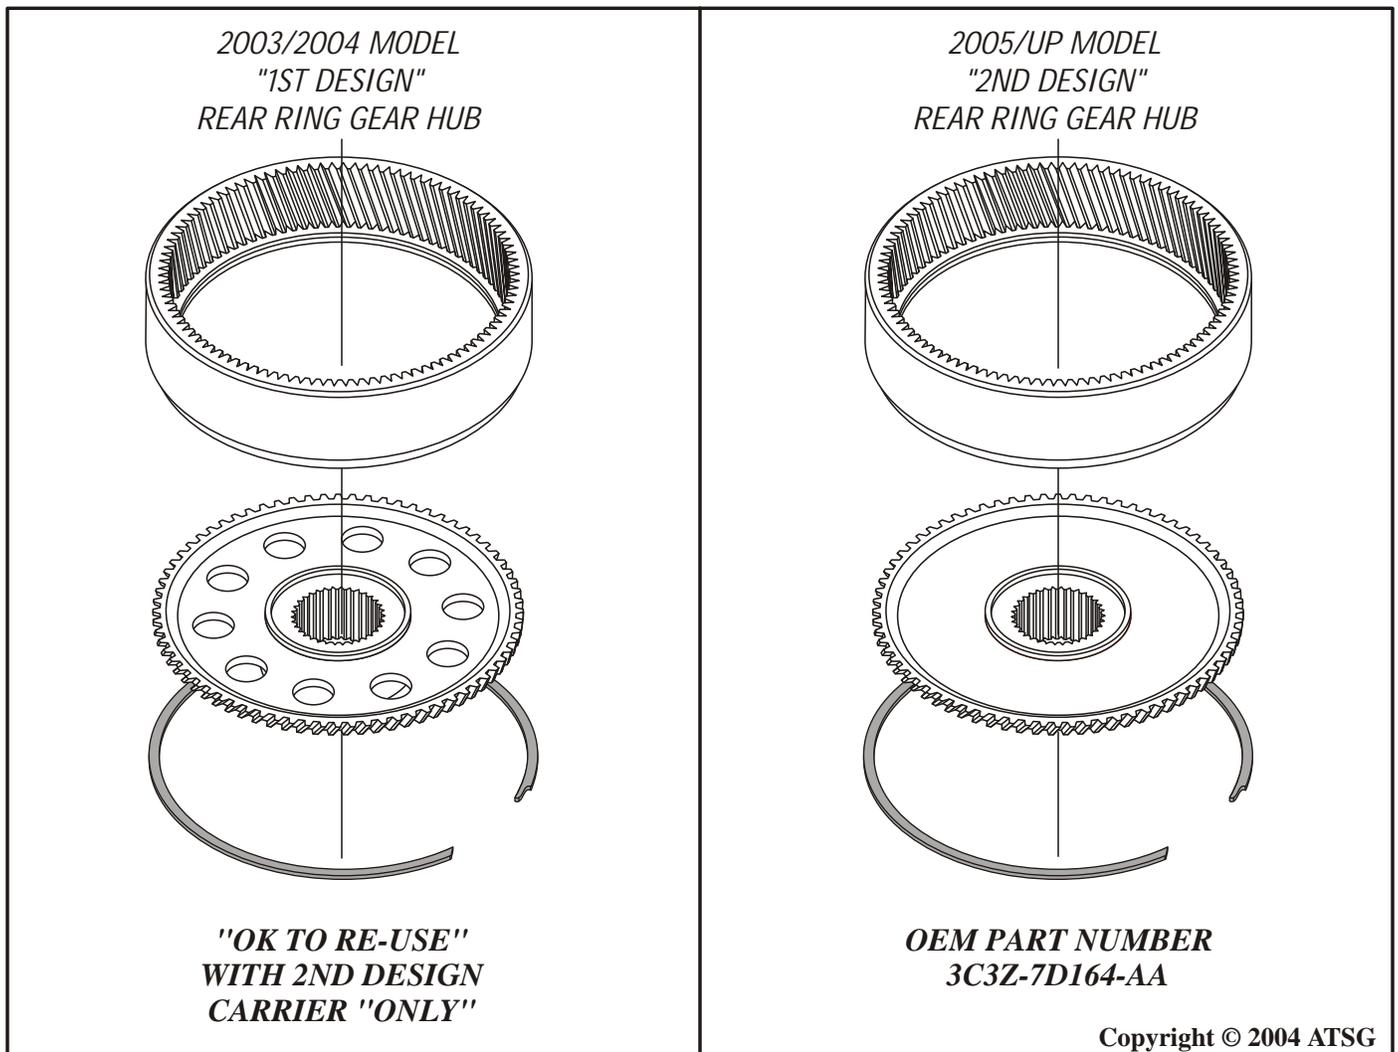

Figure 156
8. If necessary disassemble the rear planetary ring gear using Figure 156 as a guide.
Note: *The rear planetary ring gear hub also received a design change for the 2005 model year. The new design has the holes removed from the center, as shown in Figure 156.*